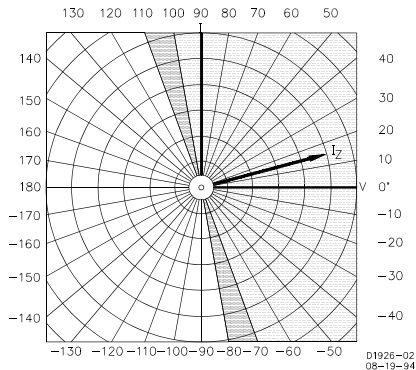

Figure 5-11.  $\alpha = 75^\circ$
- Step 11. Vary the phase angle of the input current through  $360^\circ$  and record the phase angles within which the INHIBIT LED is OFF. When shown on a polar plot, the result should be a straight line (through the origin) from  $-75^\circ$  to  $+105^\circ \pm 5^\circ$ . This plot defines the trip region as shown in Figure 5-11.